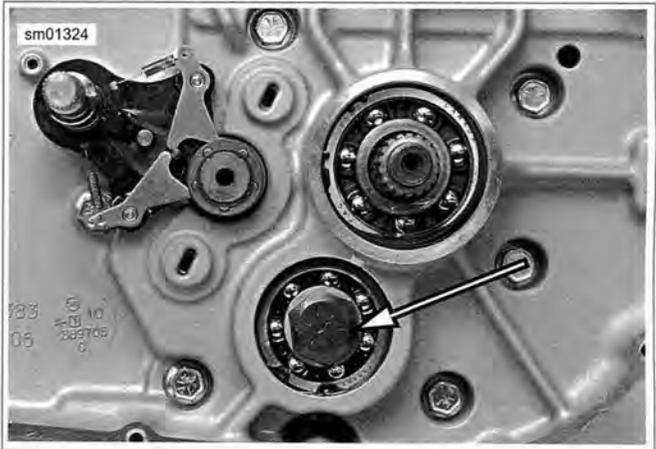

Figure 5-101. Countershaft Retaining Screw
3. See Figure 5-101. Apply several drops of LOCTITE 262 (red) to last few threads of countershaft retaining screw. Thread screw into end of shaft.